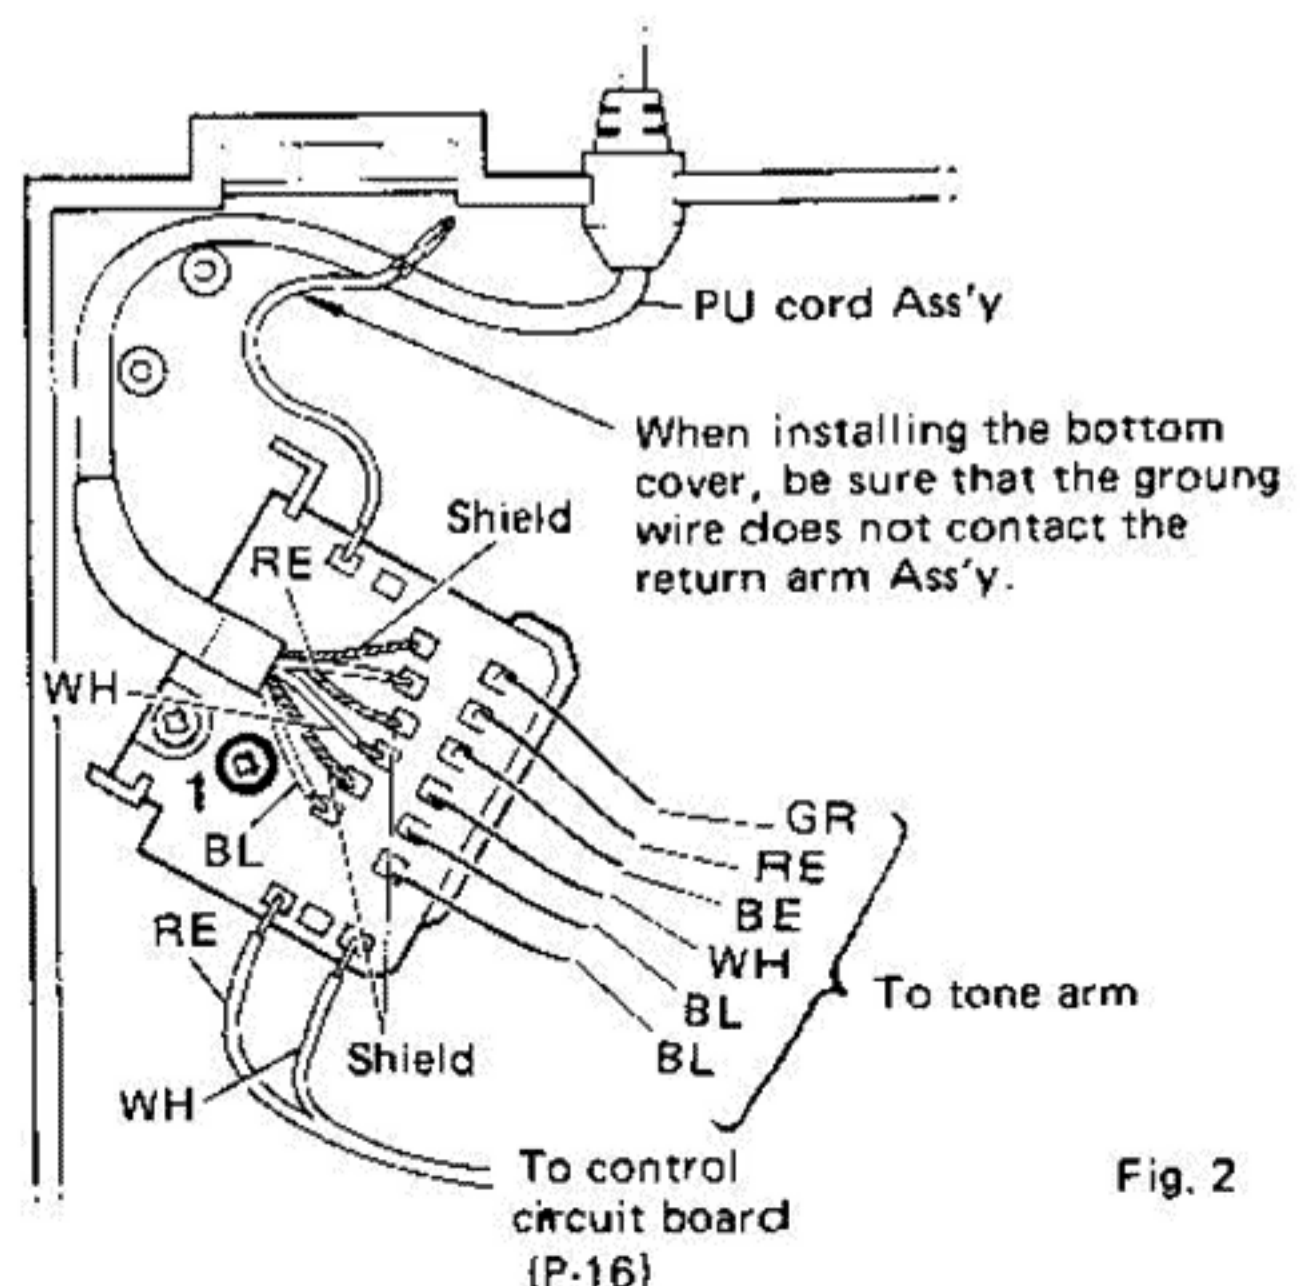

Fig. 2
- b. Remove screw ① in fig. 2 and replace the PU cord Ass'y.